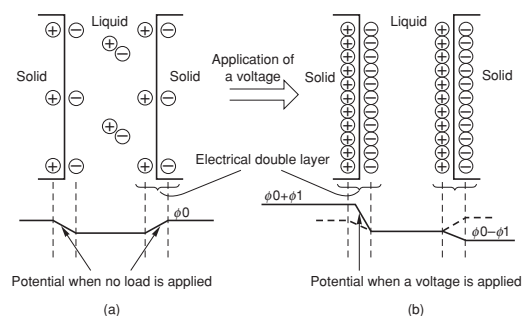

Fig. 2 Basic Structure of Super Capacitor
Figure 2 shows a conceptual drawing of the basic structure of Super Capacitor.
According to Helmholtz's theory, there is a potential gradient only in the electrical double layer, and their respective potential curves are as shown in Figures 2 (a) and 2 (b). In Figure 2(b), if ψ and η , when no load is applied, are ϕ_0 and η_0 , respectively, then η_0 is represented by expression (2).
Then, if an external electrical field is applied, charge is accumulated on the boundary surface as shown in Figure 2 (b). At this time, suppose ψ_0 becomes ψ_1 and η_0 becomes η_1 , then η_1 is represented by expression (3).